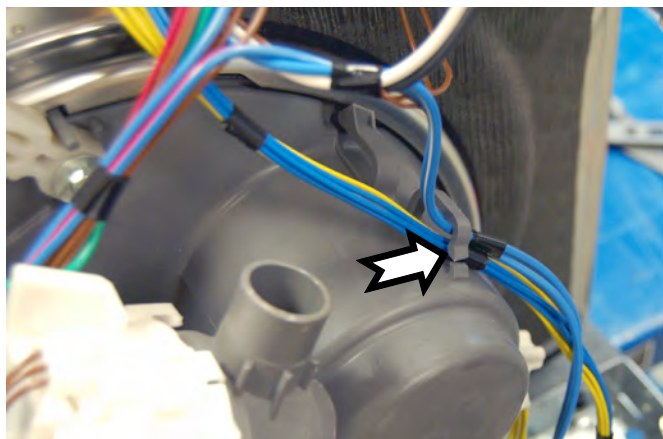

Figure 3
3. Remove the wire harness from the bracket on the side of the sump and move off to the side, see figures 3 and 4.